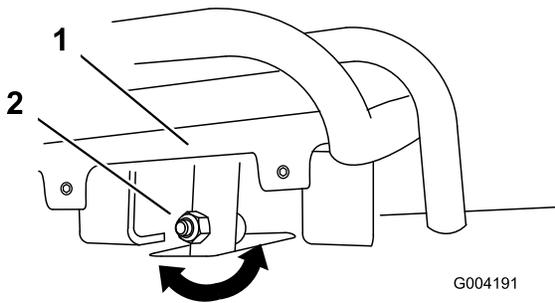
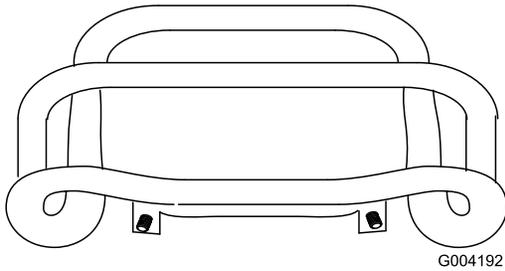

Figure 48
Figure 49
4. If the front of the traction control does not rest square and flush with the reference bar, loosen the flange nut and bolt in the stem of the traction control (Figure 48).
5. Adjust the traction control so that it rests flush against the reference bar when it is pulled straight back (Figure 48 and Figure 49).